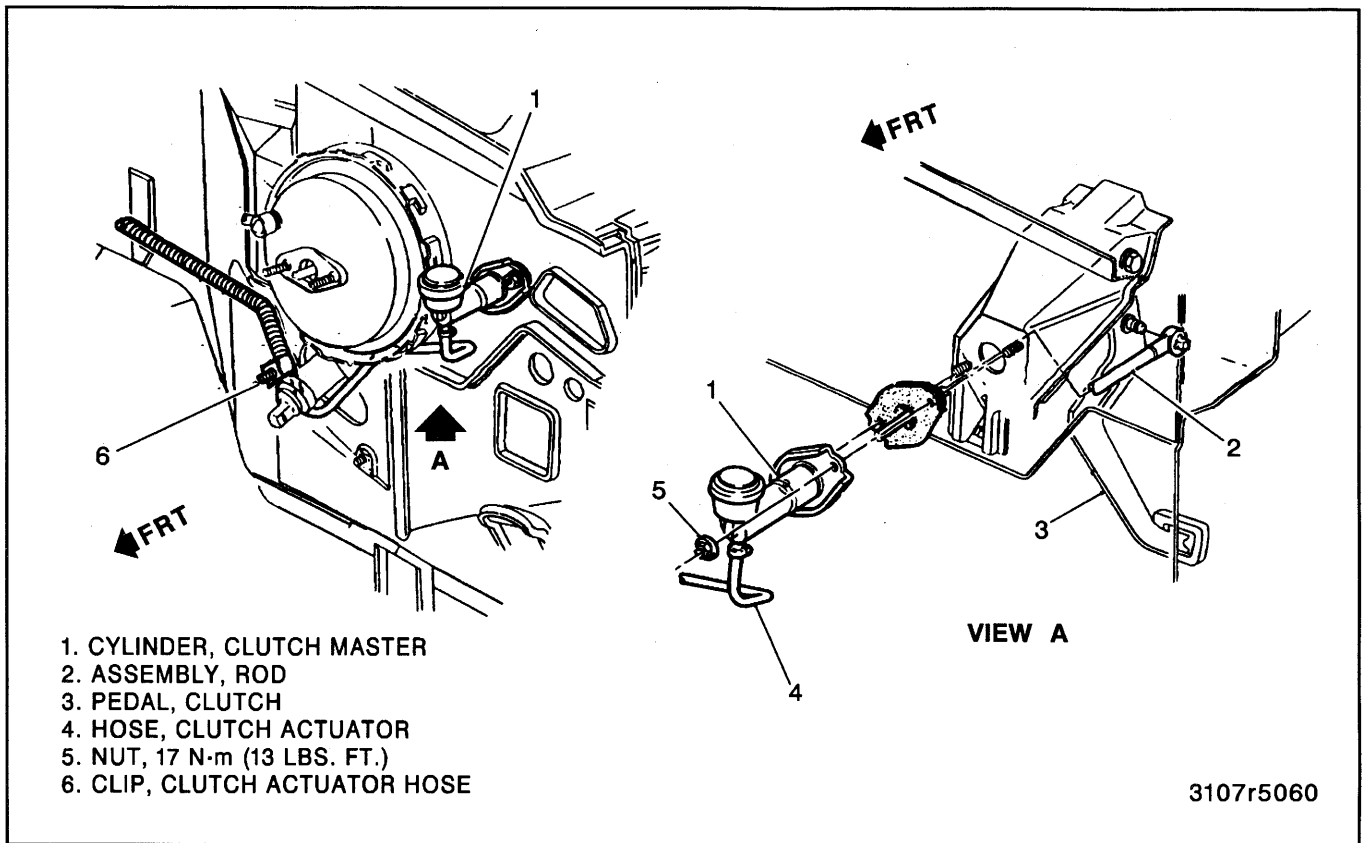

Figure 2—Master Cylinder and Reservoir
Remove or Disconnect (Figures 2 and 3)
Install or Connect (Figures 2 and 3)
6. Clip onto steering column bolt (figure 2).
Bleed (Figures 2 and 3)